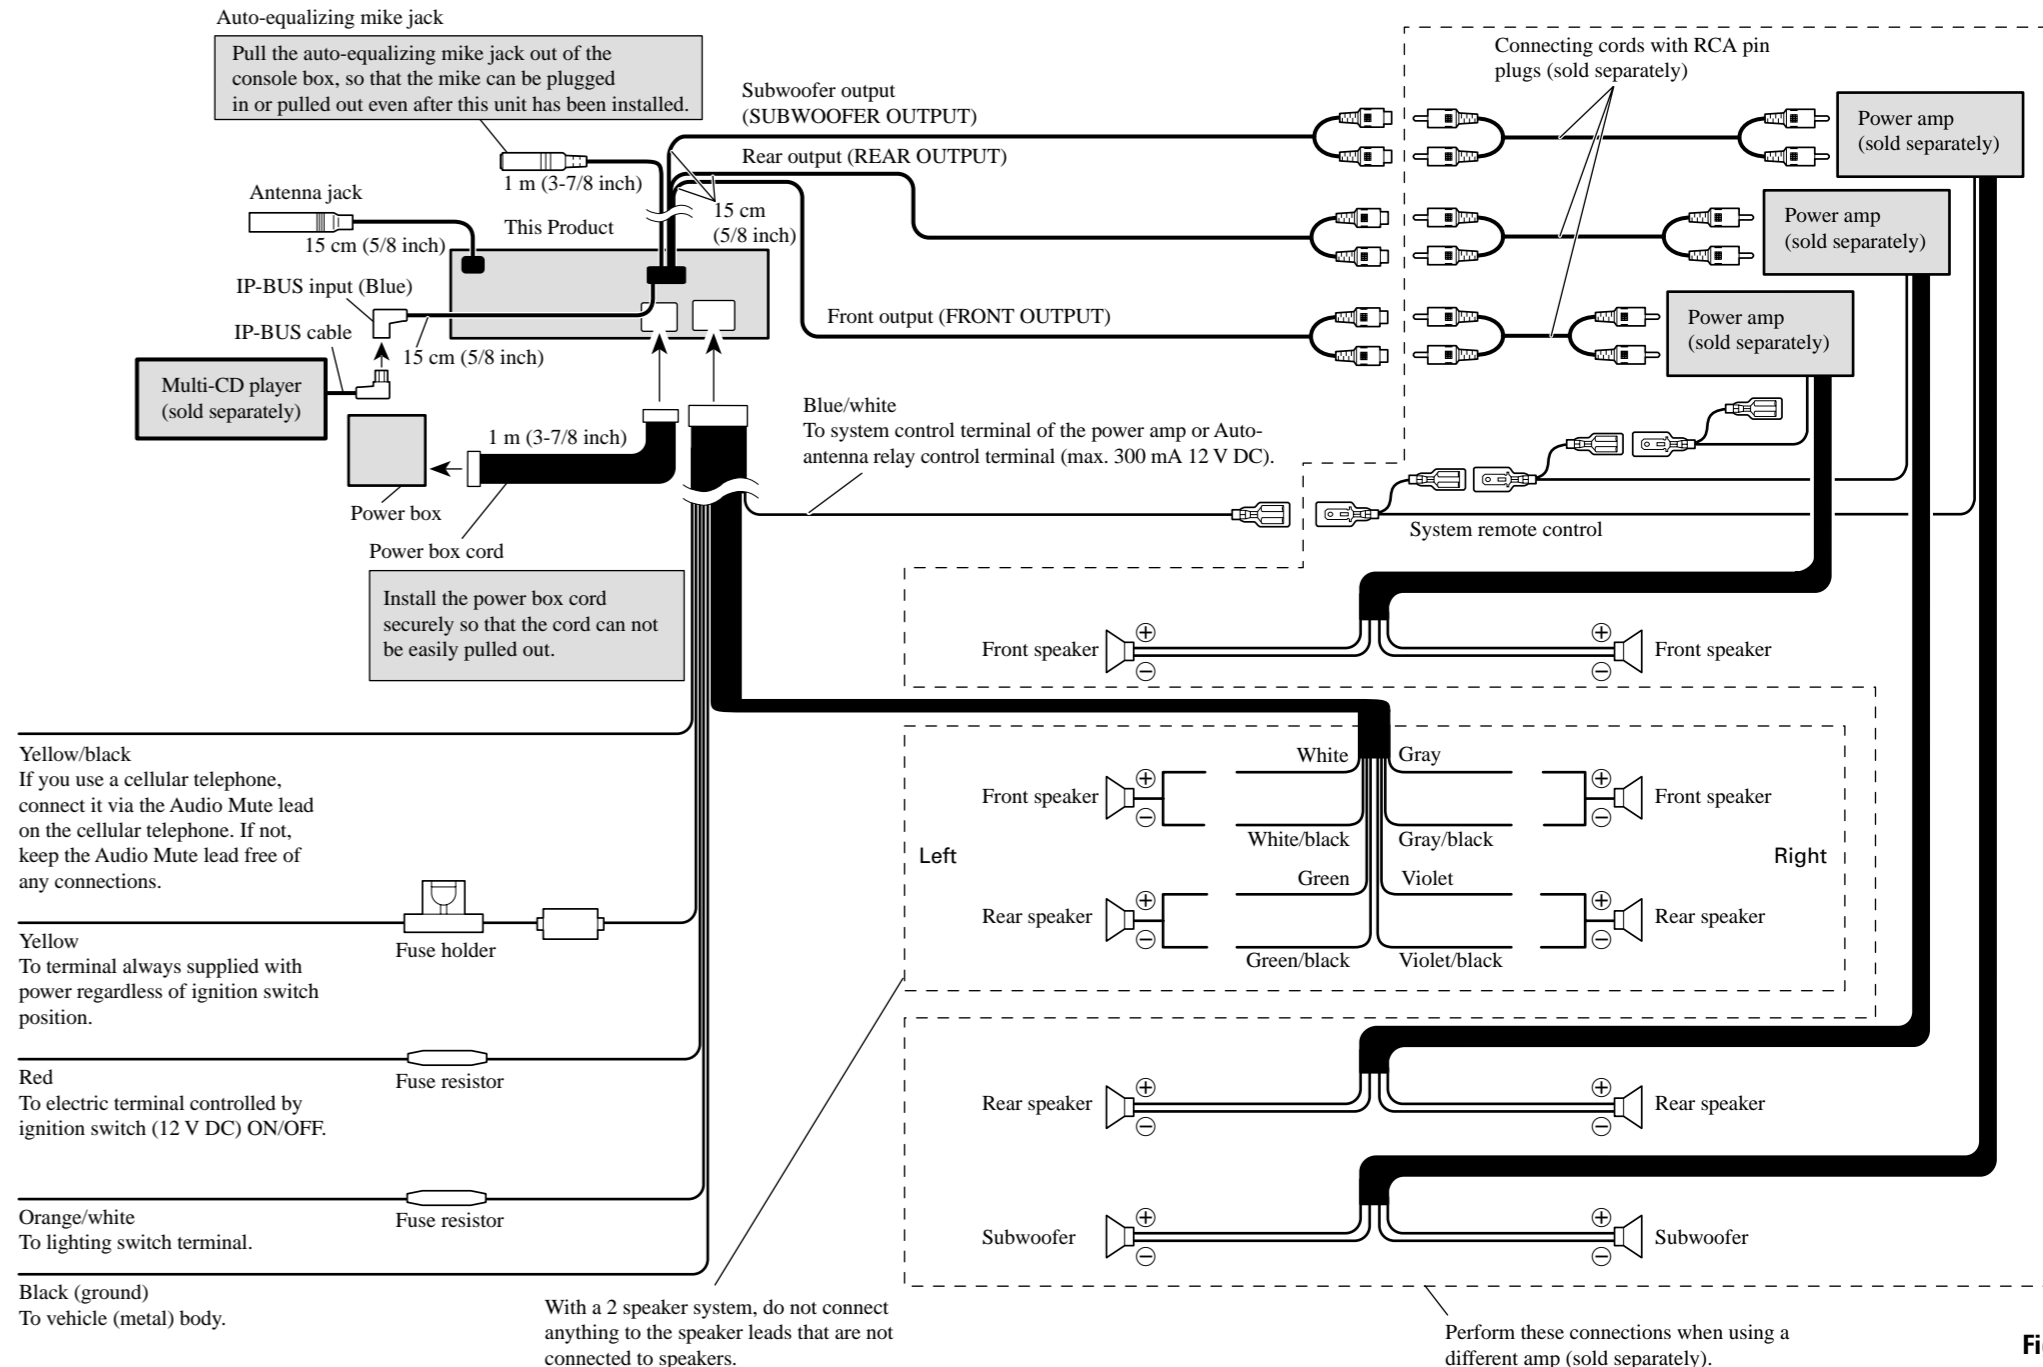

Fig. 2
- The cords must not cover up the area shown in Fig. 2. This is so the amplifiers can radiate freely.